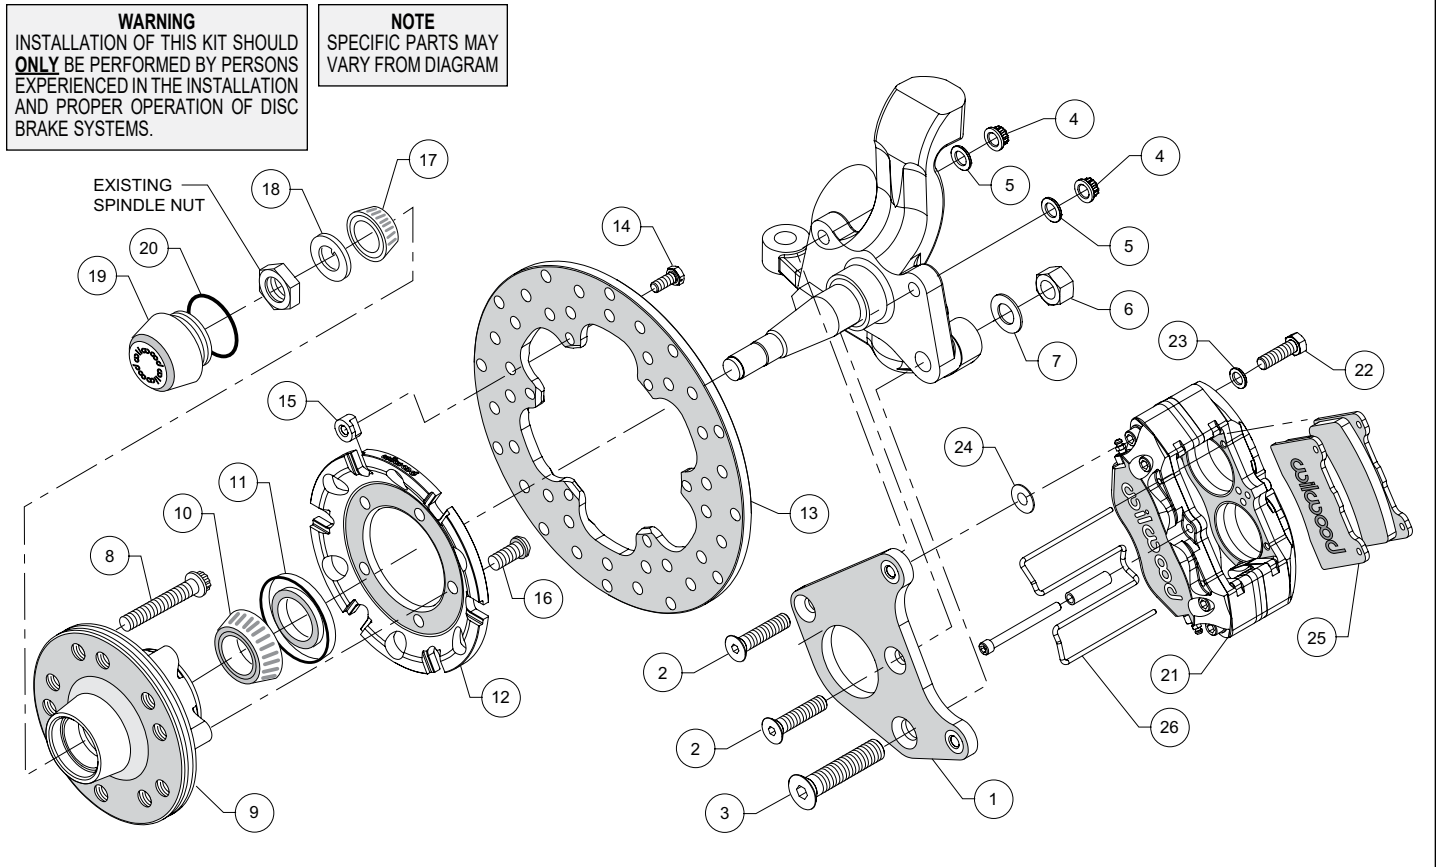
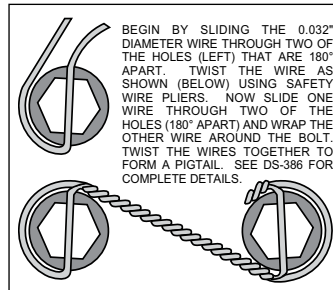

Figure 1. Typical Installation Configuration
Figure 3. Safety Wire Diagram
NOTE: Numbers in parenthesis refer to the parts list and Figure 1 on the preceding pages.
- Orient the caliper mounting bracket (1) as shown in Figure 1 and Photo 1. Attach using bolts (2 and 3), nuts (4 and 6) and washers (5 and 7), Figure 1. Temporarily tighten the mounting bolts. Ensure that the flanged heads of the clinch nuts in the bracket are facing outboard, Photo 1. **NOTE:** The bracket must fit squarely against the mounting points on the spindle. Inspect for interference from casting irregularities, machining ridges, burrs, etc. Torque nuts (4) to 47 ft-lbs and nut (6) to 140 ft-lbs.
- Pack the large inner bearing cone (10) with high temperature disc brake bearing grease (available from your local auto parts store) and install into the backside of the hub (9), Photo 3.
- Install the grease seal (11) by pressing into the backside of the hub (9), flush with the end of the hub, Photo 3.
- Orient the rotor (13) and the rotor adapter (12) as shown in Figure 1 and Photo 4. Attach the rotor to the adapter using bolts (14) and T-nuts (15). Apply red *Loctite*® 271 to the bolt threads and torque to 220 in-lb using a criss-cross pattern. Safety wire bolts using standard 0.032 inch diameter stainless steel safety wire as shown in Figure 3. Refer to Wilwood's data sheet
- Mount the adapter/rotor assembly (12 and 13) to the hub (9) using bolts (16), as shown in Figure 1 and Photo 5. Using an alternating sequence, apply red *Loctite*® 271 to the threads, and torque to 45 ft-lb.
- Pack the small outer bearing cone (17) with high temperature disc brake bearing grease and install into hub (9). Slide the hub/rotor assembly onto the spindle. Secure using spindle washer (18) and OEM spindle nut, Photo 6. Install saved OEM nut lock (if any) and a new cotter pin (not included). Bearing adjustment: Tighten the nut while turning the hub. When there is a slight bind on the bearings, they are seated correctly. Back the nut off about 1/6 to 1/4 of a turn, or sufficiently to allow .001" to .007" end play. **WARNING:** Failure to back off adjusting nut could cause bearing to run hot and be damaged, which could cause the wheel to lock or come off.
- Screw dust cap (19) into hub (9), Photo 7. Friction created by the o-ring (20) on the dust cap keeps it from unscrewing. **NOTE:** The O.D. of the existing OEM spindle washer may be larger than the I.D. of the dust cap not allowing it to seat against the hub face. Therefore, use the spindle washer (18) supplied with the kit instead of the OEM washer.
- NOTE:** Please reference the caution statement at the beginning of the assembly instructions. Mount the caliper (21) onto the caliper mounting bracket (1) using bolts (22) and washers (23), as shown in Figure 1. Initially place one .035" thick shim (24) on each bolt between the caliper and the bracket, Photo 8. Temporarily tighten the mounting bolts and view the rotor (13) through the top opening of the caliper. The rotor should be centered in the caliper, Photo 9. If not, adjust by adding or subtracting shims (24) between the bracket and the caliper. Always use the same amount of shims on each of the two mounting bolts. **NOTE:** The end of each bolt must be flush with or slightly protruding from the head of the clinch nut, as shown in Figure 3. If necessary place spare shims between washer (23) and caliper mounting ear to achieve the proper clinch nut engagement. Once the caliper alignment and clinch nut engagement are correct, remove the bolts one at a time, apply red Loctite® 271 to bolt threads, and torque to 40 ft-lb. For an added measure of security, the bolts may be safety wired using standard 0.032 inch diameter stainless steel safety wire as shown in Figure 3. Refer to Wilwood's data sheet DS-386 (available at www.wilwood.com/Pdf/DataSheets/ds386.pdf) for complete safety wire installation instructions.
- Install the disc brake pads (25) into the caliper, with the friction material facing the rotor (13), Photo 10, and secure in place using pad retainer clip (26), Photo 11.